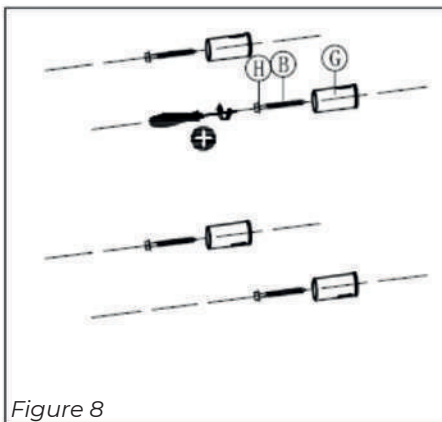

Figure 8
**7.** Screw the four outer wall brackets with self-tapping screws (Figure 8, pos. B) and spacer rings (Figure 8, pos. H) in to the four plugs.